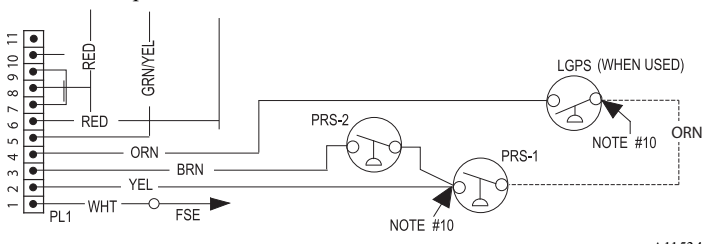

Fig. 14 – Pressure Switch Wiring
2. Connect the orange wire from the Low Heat Pressure Switch to the orange wire with the insulated male spade terminal. See Fig. 14.